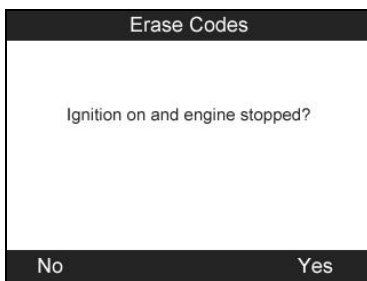

Figure 3.28
- 2) A notice screen will prompt up to let you confirm the vehicle state, check if the ignition is on and the engine is stopped. Press the **Y** button to continue, otherwise press the **N** button to exit. (Figure 3.28)